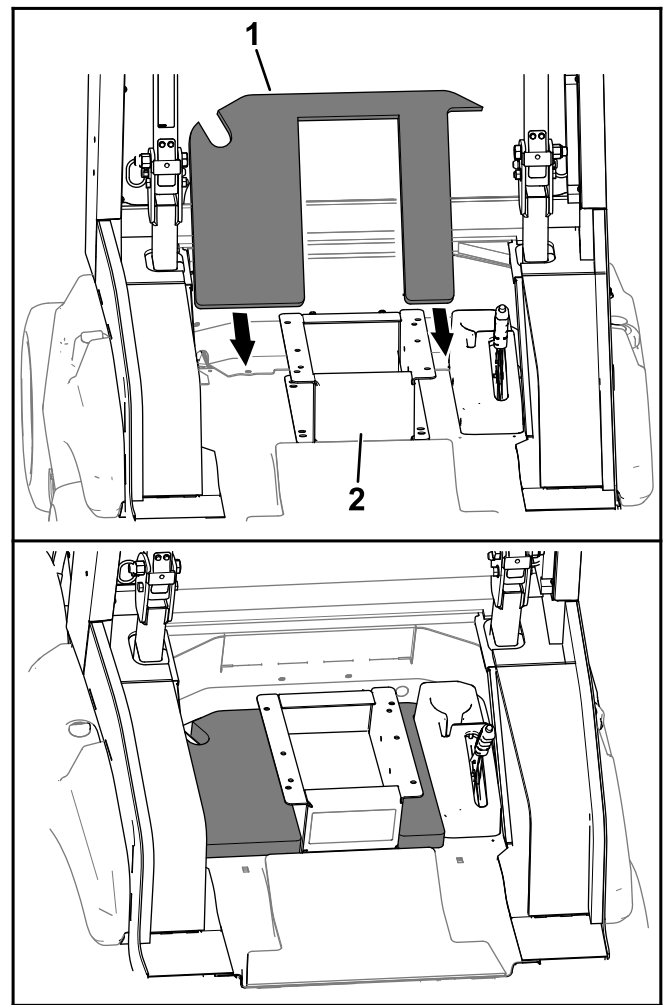

Figure 20
- Install the seat pad around the seat base (Figure 20).